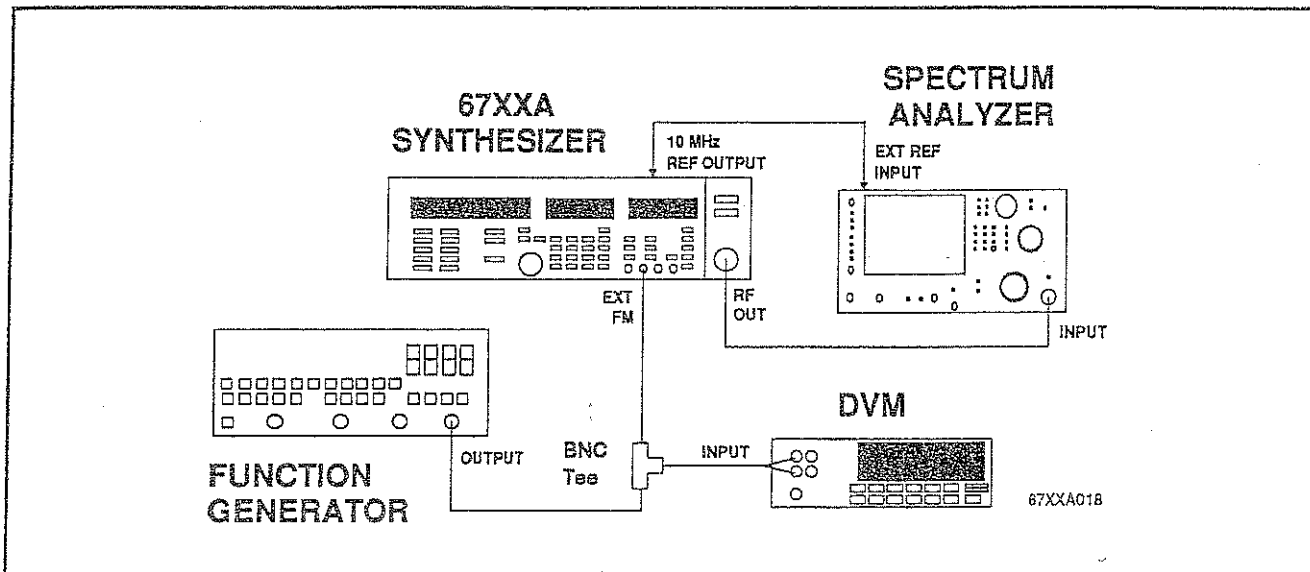

Figure 3-18. Test Equipment Setup for FM Flatness Calibration (0.01 to 20 GHz)
1. Connect the equipment as was shown in Figure 3-18.